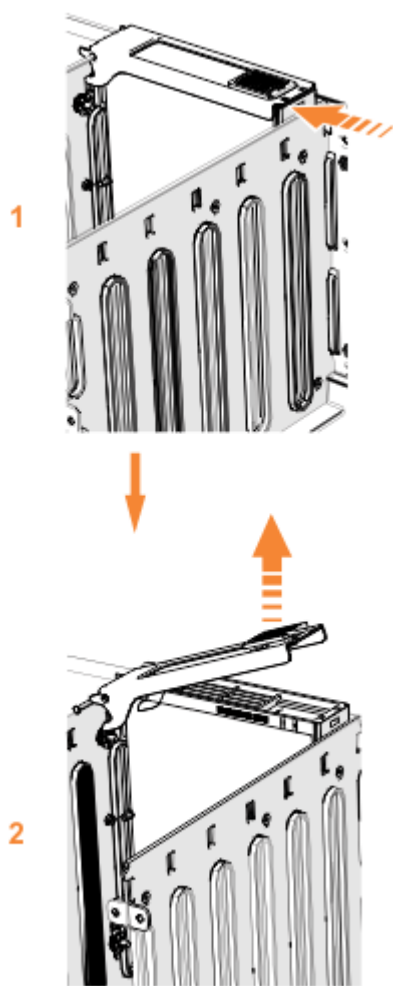

Figure 90. Remove the drive assembly
5. Slide the release latch forward (1), as shown in Figure 90 on page 88.
6. Lift the handle (2) to unlock the drive carrier from the partition, as shown in Figure 90 on page 88. Ensure the toe on the bottom of the latch is fully disengaged.